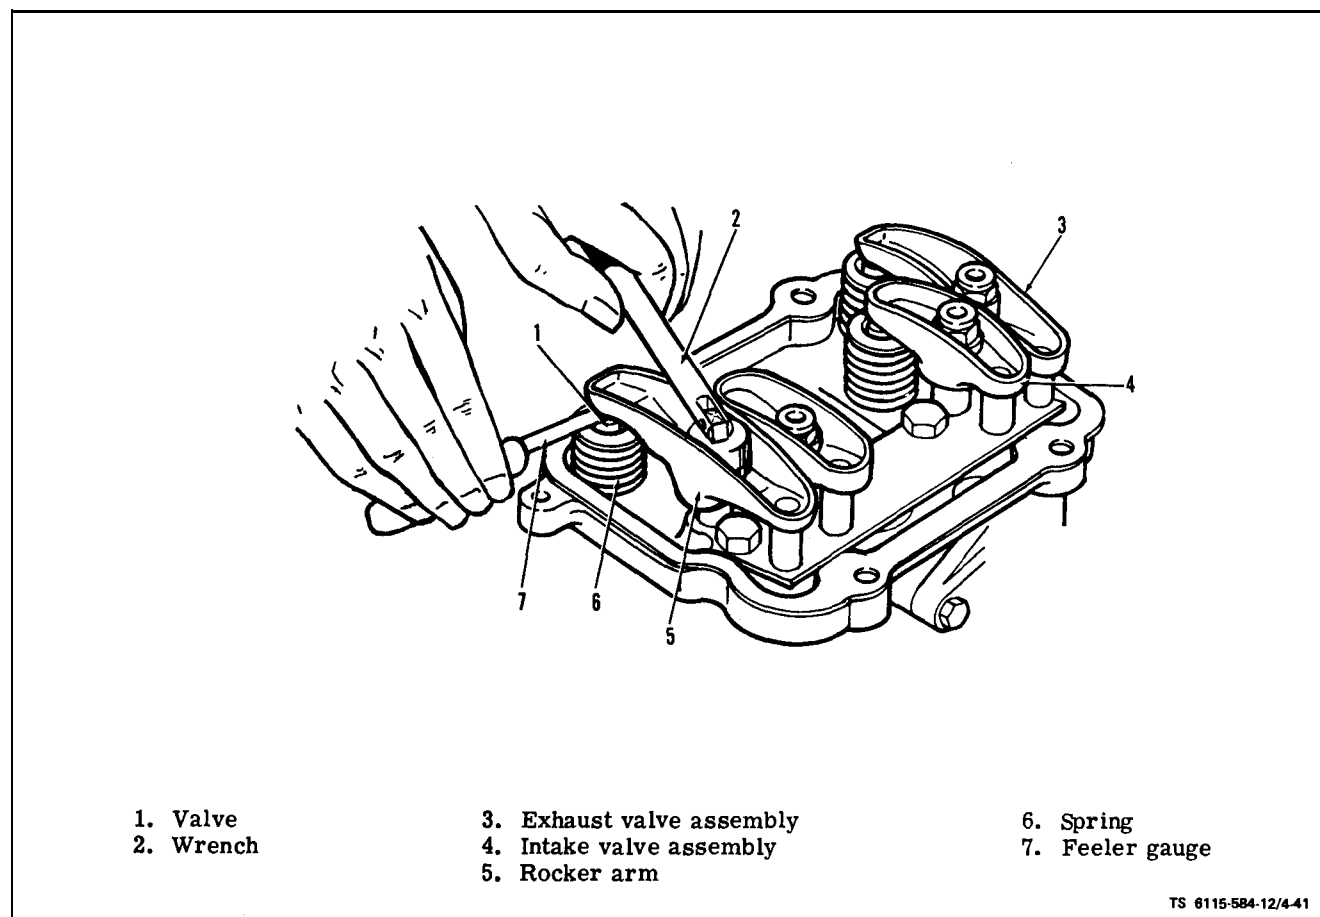

Figure 4-41. Checking and Adjusting Rocker Arm to Valve Clearance
a. Inspect (see figure 4-41). Inspect rocker arms for physical damage or excessive wear.
(1) Using 5/8" socket wrench and extension, turn the blower wheel clockwise until No. 1 cylinder is on its compression stroke, which follows the closing of its intake valve. See figure 4-41 for identification of intake valve assembly.
(2) Continue clockwise rotation until the letter "A" appears in the timing port on the side of the generator adapter. This puts No. 1 cylinder in the power stroke with both valves closed.
(3) By using a feeler gauge, check the clearance between the rocker arm and the valve stem cap. See figure 4-41. Increase or reduce the clearance until the proper gap is established, adjusting with the lock-nut which secures the rocker arm to the cylinder